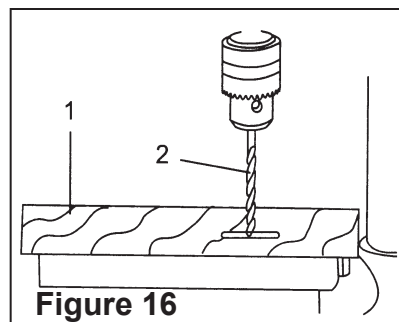

Figure 16
See Fig.16
Workpiece method (Figure 16 and 17)
- Mark the depth (2) of the hole on the side of the workpiece.(1) (Figure 16).
- With the switch "OFF", bring the drill bit (2) down until the tip is even with the mark (Figure 16).